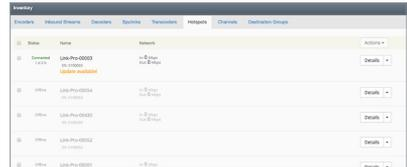

Fig. 3
- 1 From the Core dashboard, tap the **Inventory** button and select **Hotspots** to view the Hotspots index (Fig.3).